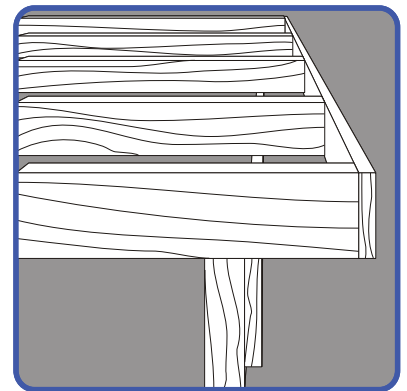

Figure 1
**Step 1. Build the deck sub-structure.** Build the deck sub-structure using traditional load-bearing materials, such as pressure treated lumber or steel (see Figure 1). **NEVER** use **AURORA** Decking System materials for joists, posts, beams, studs, columns, or stringers. The deck sub-structure should have joists with standard 16 inch centers. Individuals may wish to consult instructional resources (books or videos) to learn the best methods for constructing a safe and sturdy deck foundation. You may find some helpful links to deck building information by visiting our website at [www.auroradecking.com](http://www.auroradecking.com).